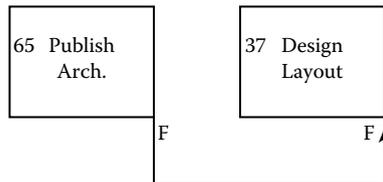

Figure 9.7 A Finish-to-Finish (F-F) relationship.
3. Finish-to-Finish (F-F; Figure 9.7). This relationship is valuable to “lock” the finish of one activity to the finish of another. The relationship in Figure 9.7 reads as activity 37 (Design Layout) can finish as soon as activity 65 (Publish Arch.) is finished.